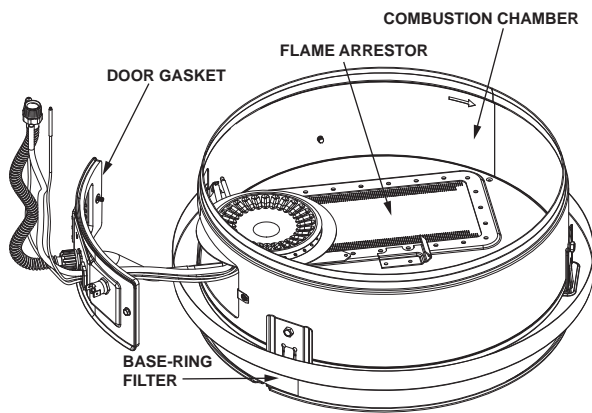

FIGURE 28.
1. At least annually, check the base-ring filter (Figure 28) for any dust or debris that may have accumulated on the filter screen. NOTE: If the water heater is located in an area that is subjected to lint and dirt, it may be necessary to check the base-ring filter more frequently.
2. Use a vacuum cleaner/shop vac to remove all loose debris in the combustion chamber (Figure 28). Use compressed air to clear any dust or debris that may have accumulated in the flame-arrestor.
1. Check the door gasket for damage or imbedded debris prior to installation (Figure 28).
4. Inspect the door gasket and make sure there is no fiberglass insulation between the gasket and the combustion chamber (Figure 28).